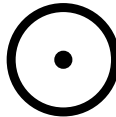

Figure 5.2 Laser pointer with temperature measurement spot
5. Press the Laser pointer button to switch ON the Laser pointer. The Laser pointer has a circular spot indicating the area that is being monitored for temperature. See the Laser pointer image example below in **Figure 5.2**. If the Laser beam does not appear when the button is pressed, enable it in the menu system (under *Device Settings*).